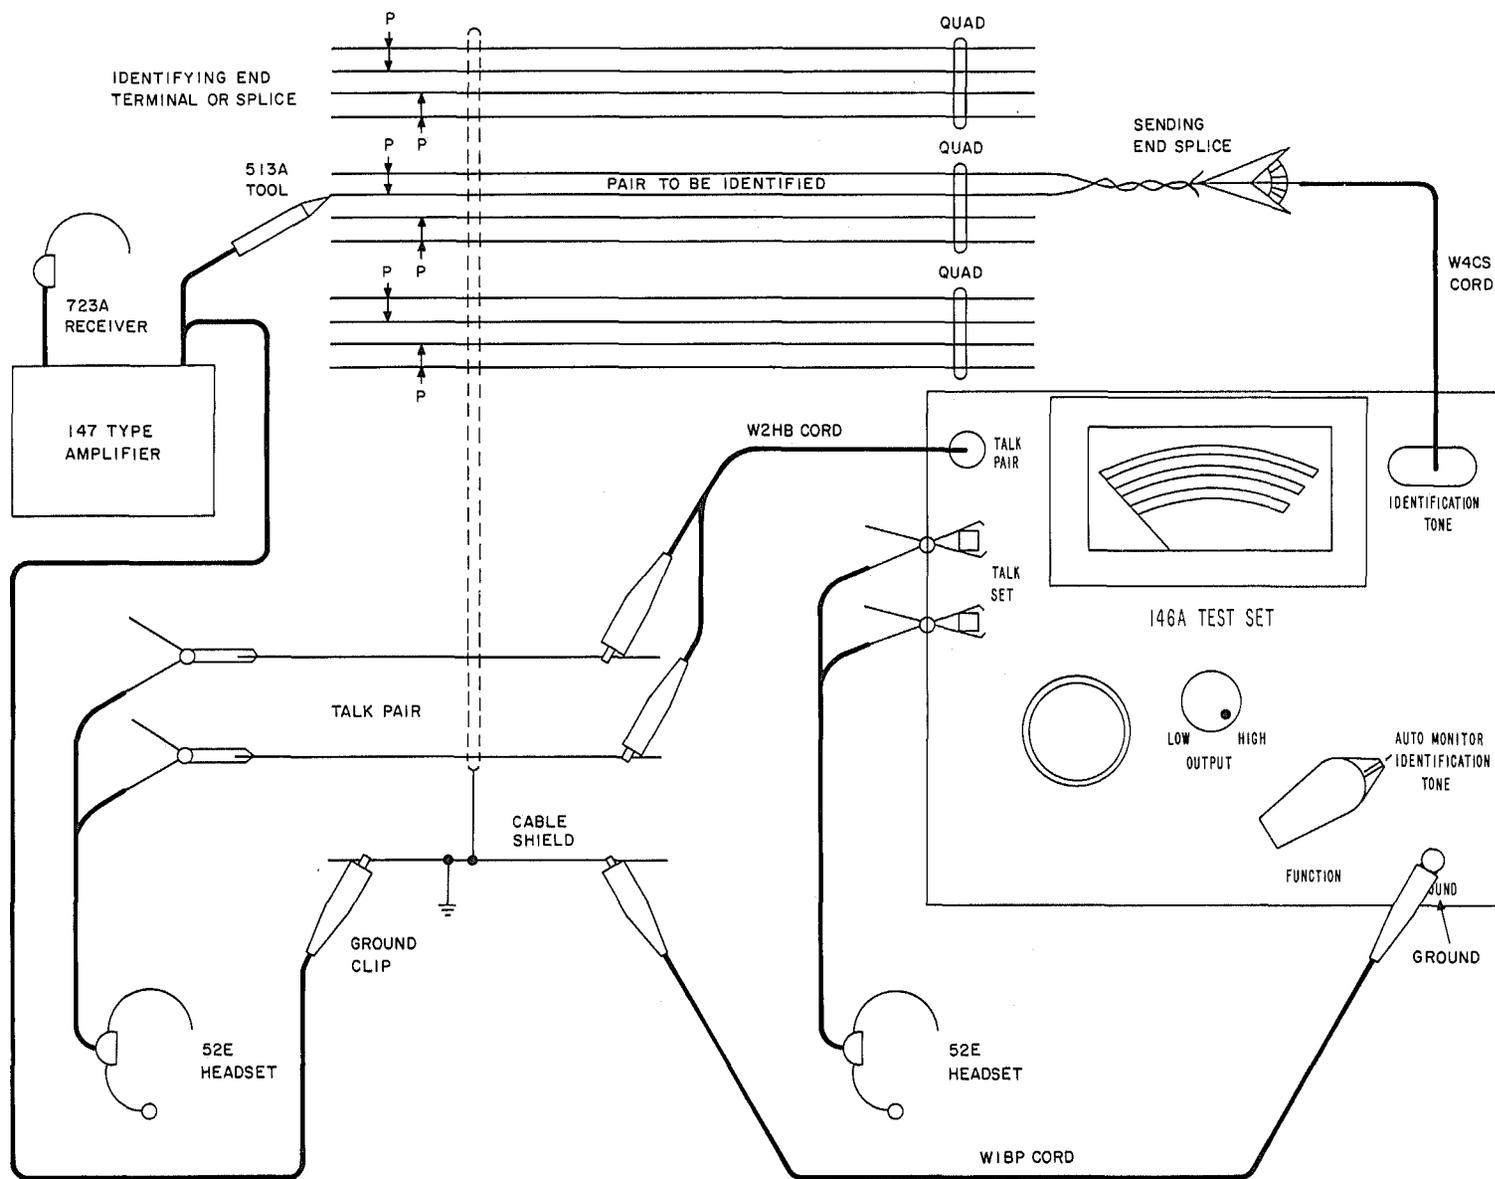

Fig. 11—Identifying Conductors in Quadded Cable—Tone Sent From Splice Location
- 5.20 Refer to Fig. 11. In long quadded cable it is advisable to use the W4CS cord and set the FUNCTION switch to AUTO MONITOR IDENTIFICATION TONE. With this technique the tone must be applied at the splice and not at a terminal location. The quad on which tone is sent must be nonworking.